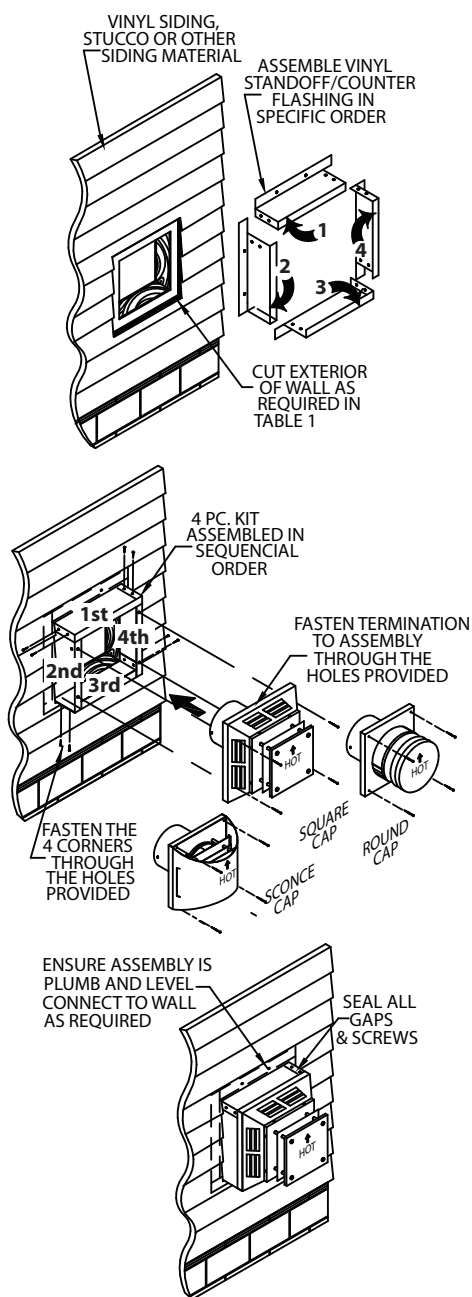

Figure 12
- Loosely assemble the four parts, in order, around the opening in the vinyl siding. Place the first of 4 pieces along the upper edge of the opening in the vinyl siding. Progressing counter-clockwise, place the left side, the bottom side, and then the right side around the opening in the siding. Refer to **Figure 12**.
- Attach the Horizontal Cap to the Vinyl Siding Standoff. Line up the holes in the cap with the holes in the Vinyl Siding Standoff and secure with the (4) long screws provided with the cap.
flashing: Center the counter flashing on the wall around the framed penetration. Secure to the wall using the screws provided or other necessary connector depending on the wall material. Attach the Horizontal Cap to the Counter Flashing by lining up the holes in the cap with the holes in the Counter Flashing. Secure using the 4 long screws provided with the cap (**Fig. 12**).